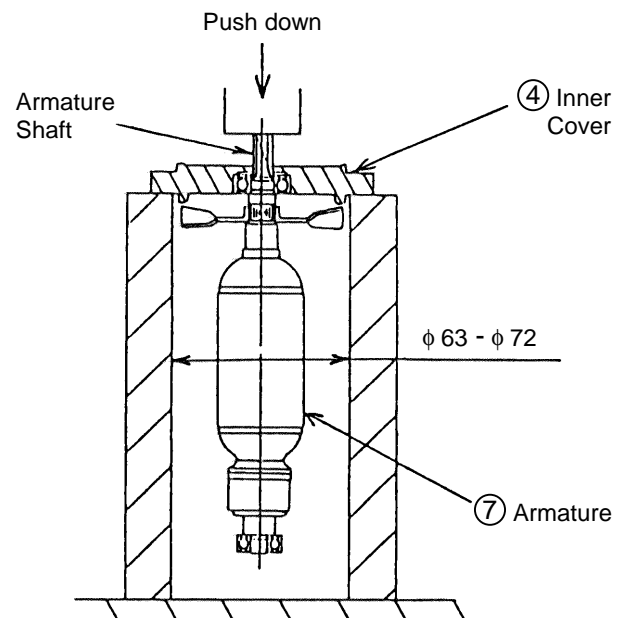

Fig. 9
(1) Disassembly of the Armature (7):
- A. Loosen the Brush Caps (32), and take out the Carbon Brushes (33).
- B. Loosen the four D5 x 30 Tapping Screws (1), remove the Gear Cover (2), and take out the Armature (7) together with the Inner Cover (4) in a single body from the Housing Ass'y (28).
- C. As illustrated in Fig. 9, support the Inner Cover (4) with an appropriate tubular jig (inner diameter of $\phi 63 - \phi 72$ mm), and press down on the pinion portion of the Armature Shaft with a hand press to loosen and remove the Armature (7).